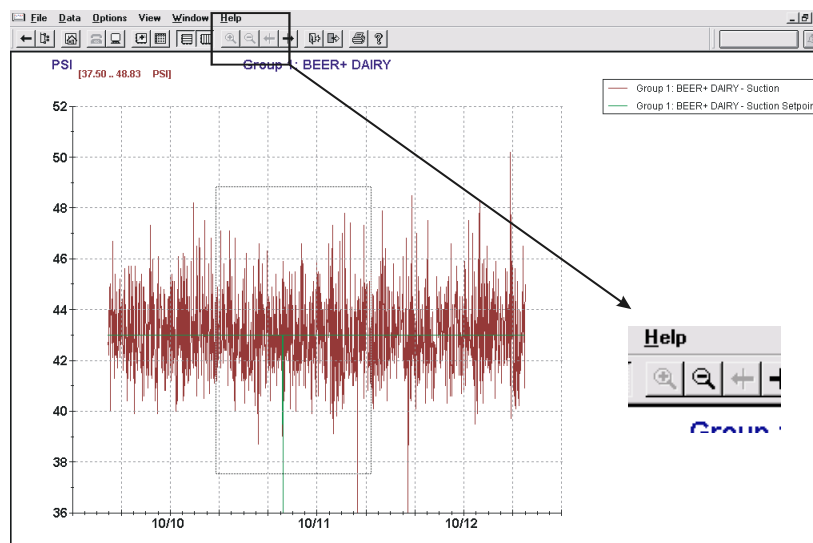

Figure 30 Graph View with Magnification Box Drawn; Zoom Out Button
4. To back out of the zoomed image, click on the zoom out icon (the magnifying glass with a minus symbol inside *Figure 30*).